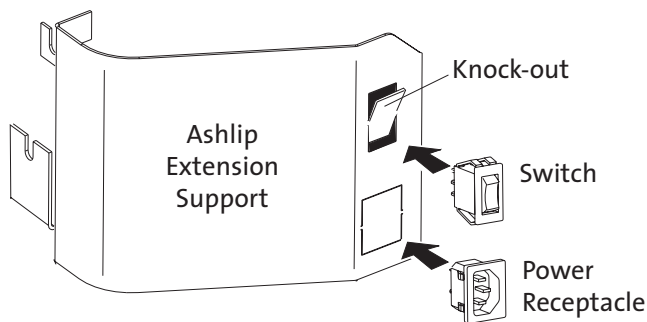

Figure 15.
6. Insert the Control Switch and Power Receptacle: Use a flat head screwdriver and pliers to pry the knockouts from the appropriate ash lip support. Work from the inside, to avoid marring the outside surface. Insert the Power Switch in the upper hole, and the Power Cord Receptacle into the lower hole. See fig. 15.
When first starting or reviving the fire, the control lever should be set at the far right position to allow the maximum amount of air into the stove. See fig. 15. After the fire is well-established, the lever should be set at position to moderate incoming air to maintain the desired long term heat output and/or burn time.